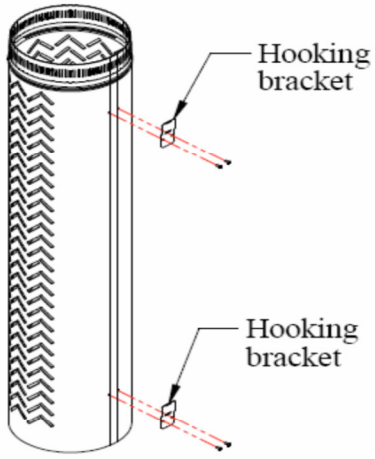

Figure 4
5. Complete Standard installation of main flue pipe & assembled decromesh (with hooking brackets) as shown in Figures 4 & 5.